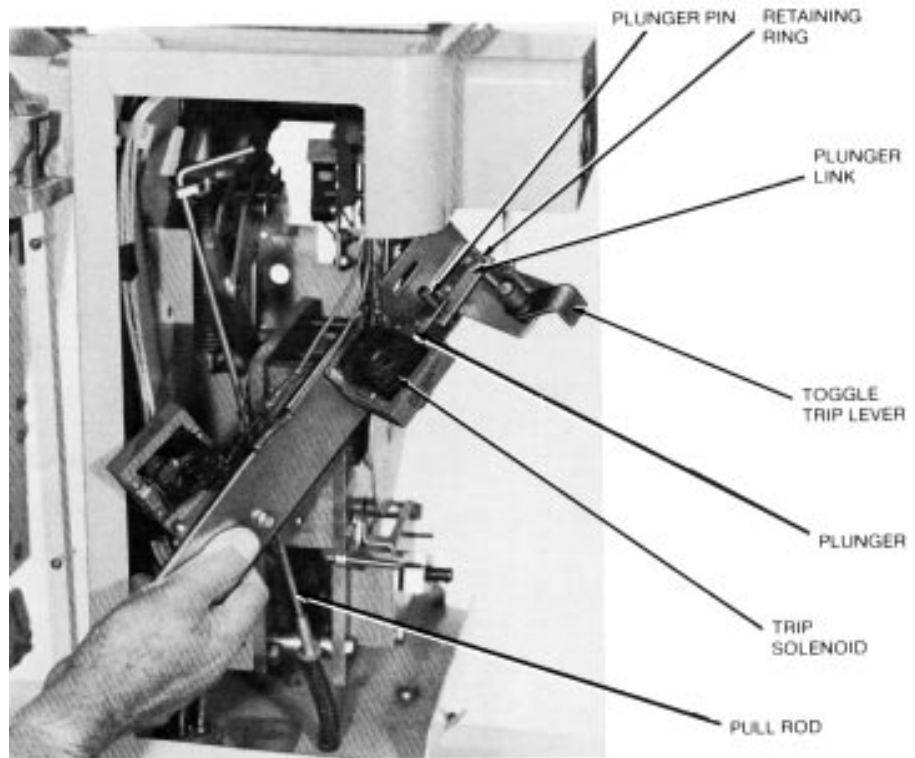

Figure 35.
2. Remove the screws and lockwashers attaching the mounting plate to the speed reducer frame, and lift out the mounting plate as shown in Figure 35.